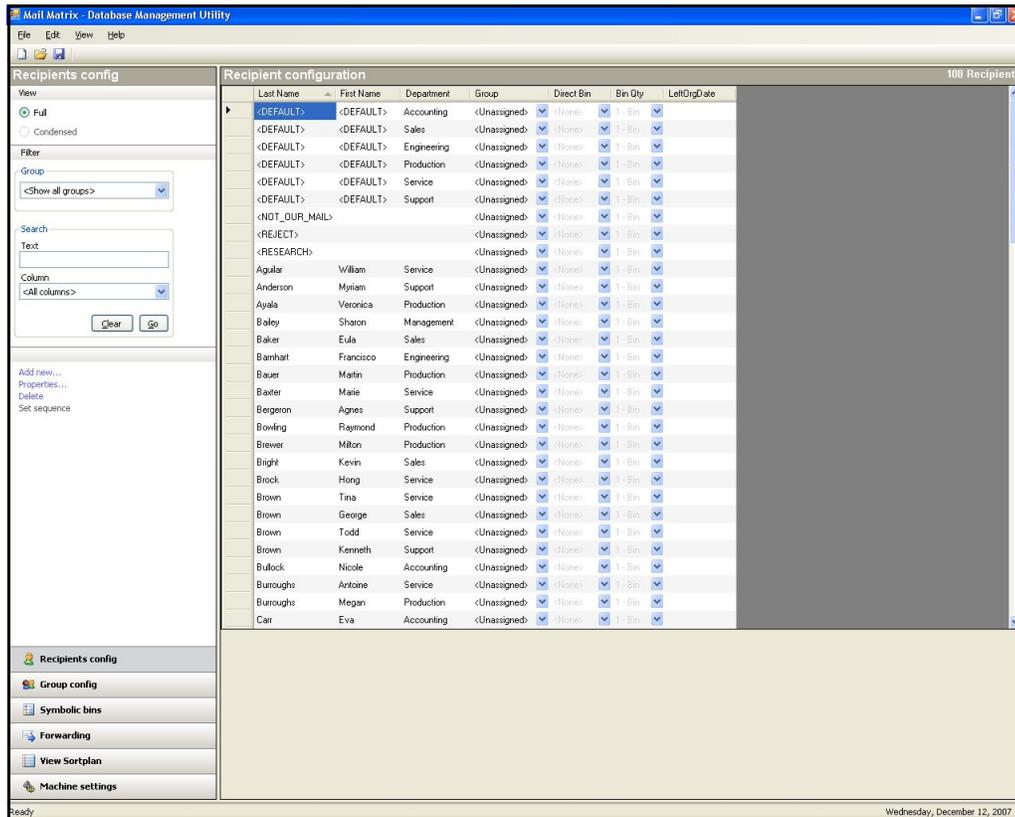

Figure 164: Recipient Configuration screen
14. The Recipient Configuration screen will appear (Figure 164), displaying all the fields imported from the database.
4. In the sample database we imported in the previous section, there are several entries for entire departments and for items named **<NOT OUR MAIL>**, **<RESEARCH>**, and **<REJECT>** (see Figure 164). For our sorting purposes, we want to keep these items together, near the front of the